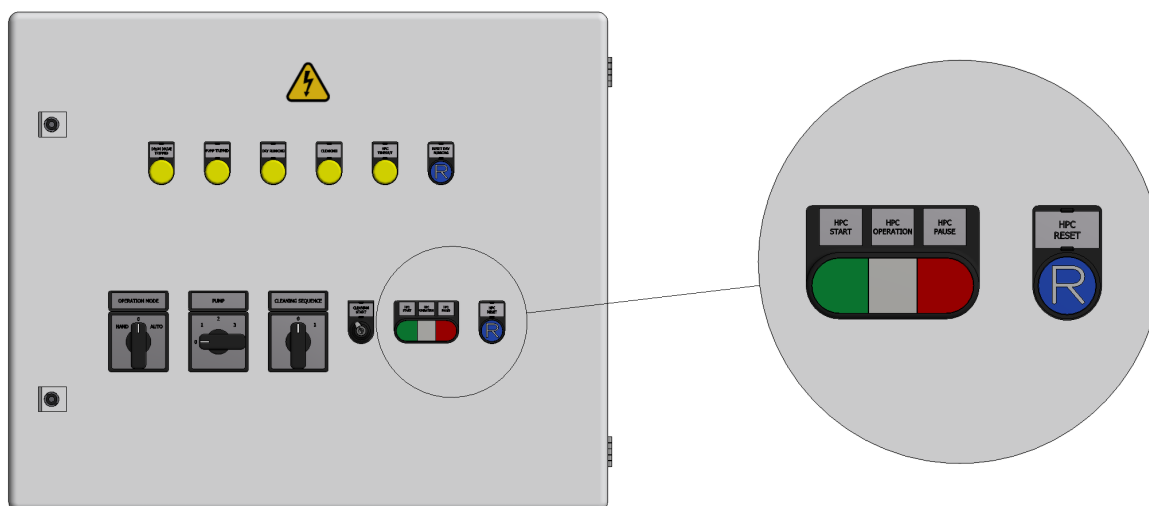

Figure 7.9 Control cabinet, filter with integrated HPC.
2. Start the HPC programme with HPC START (see figure 7.9). Indicator light HPC OPERATION indicates that the HPC programme is running.